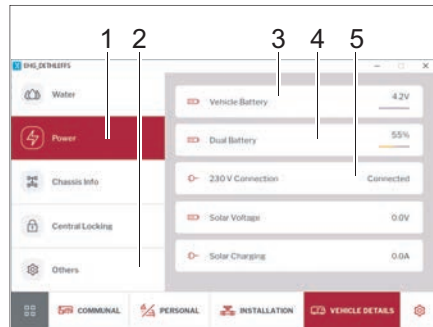

Fig. 265 Power and inside temperature
- Click on the *Power* (Fig. 265,1) button.
The vehicle's battery voltage (Fig. 265,3), the charge status of the body battery in % or charge voltage of the AGM battery in V (Fig. 265,4) and the 230 V supply status (Fig. 265,5) will be displayed.
- Click on the *Other* (Fig. 265,2) button.